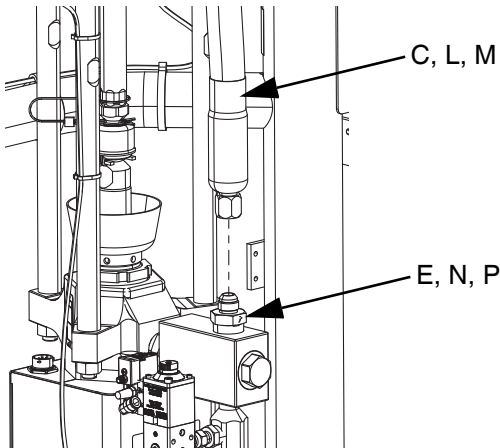

FIG. 22
4. If using a Single iQ Ram Supply System, connect Supply Hose 1 (C) to the Ram Supply System to Supply Hose 1 Fitting (E) as shown in FIG. 22.
- a. Connect Tandem Hose 1 (L) to the Ram Supply Unit 1 to Tandem Hose 1 Fitting (N) as shown in FIG. 22.
- b. Connect Tandem Hose 2 (M) to the Ram Supply Unit 2 to Tandem Hose 2 Fitting (P) as shown in FIG. 22.